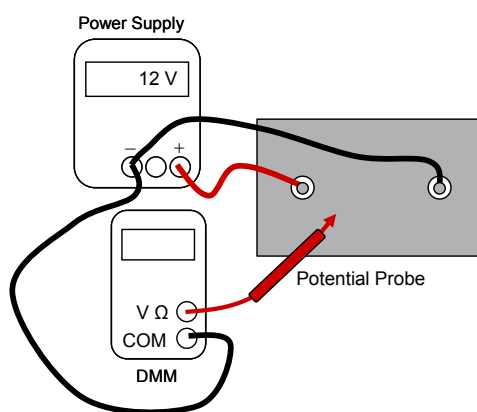

Figure 2: Wiring diagram for mapping equipotential lines
- Now connect the digital multimeter (DMM) and potential probe as shown in *Figure 2*. (The potential probe is the one with only one point. The dual-probe consisting of two single-probes fastened together will be used in a later experiment.) Set the DMM to read dc volts.